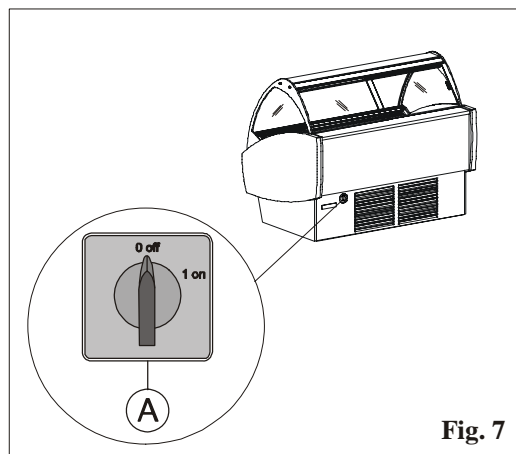

Fig. 7
- 2) Activate the display cabinet master switch, which is found on the rear protection panel. To introduce the electric power supply to the display cabinet, place the master switch at position "1" (fig. 7 pos. A).
To stop the plant act on switch (A), which is found behind the rear protection panel. Position the master switch at “0” (fig. 7 pos. A) disconnecting the display cabinet power supply.
For optimal functioning of the display cabinet, it is recommended to perform prolonged defrosting, shutting the display cabinet down for at least 12 hours, by deactivating the electric power supply switch (A) positioned on the rear protection panel of the display cabinet (fig. 7).